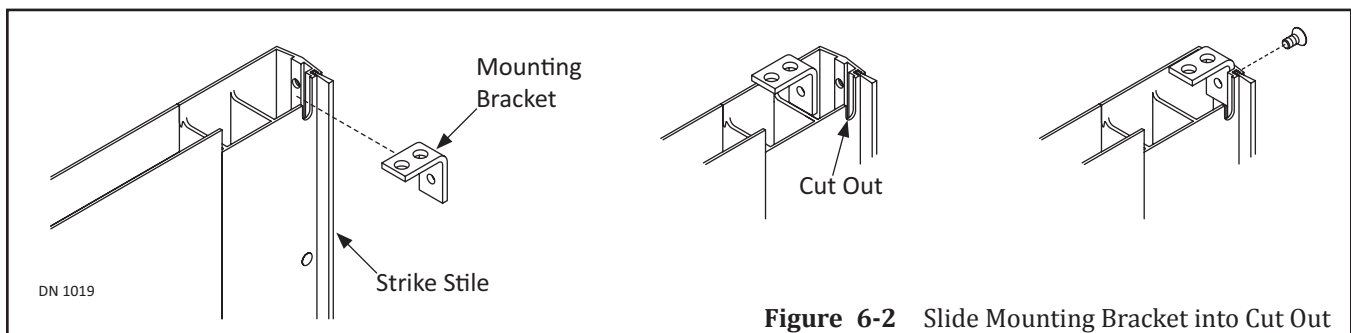

Figure 6-2 Slide Mounting Bracket into Cut Out
1. Obtain (1) 1/4-20 x 1/2 inch Flat Head Screws provided by NABCO.
3. Locate the Cut Out at the Top. Please see Figure 6-2.
4. Locate (1) Mounting Bracket that was preinstalled under the Bottom Lip of Header.
- b. Move the Fixed Sidelite forward so the Pivot Stile does not scrape up against the (3) Mounting Brackets that were preinstalled on the Pivot Jamb Tube.